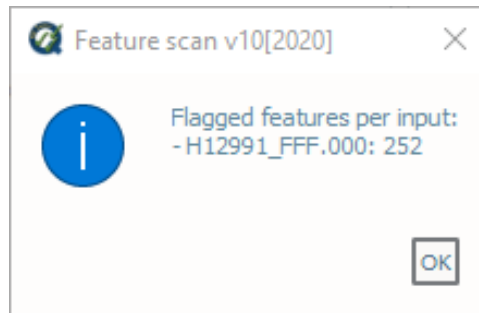

Fig. 2.30: The output message at the end of **Feature scan** execution.
- After computing, the output window opens automatically, the results are shown(Fig. 2.30).